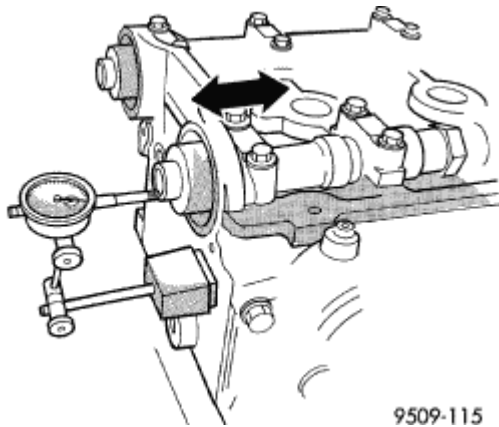

Fig. 126: Checking Camshaft End Play
2. Zero dial indicator. See **Fig. 126**.